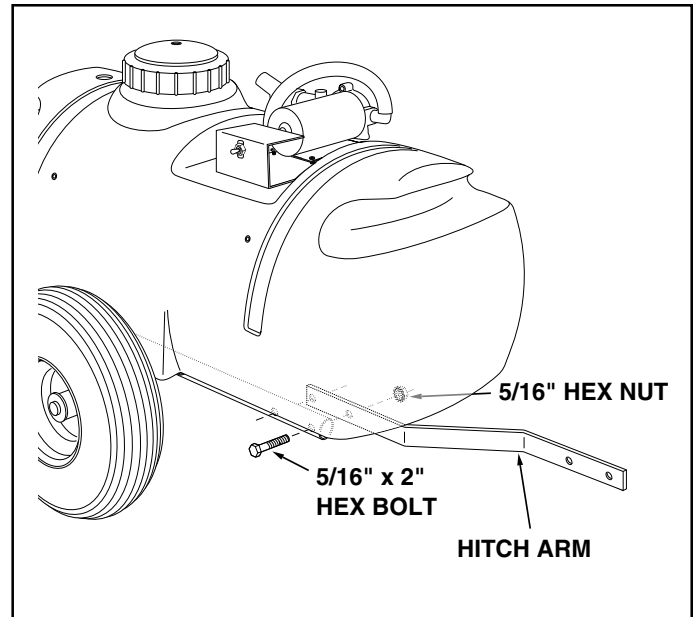
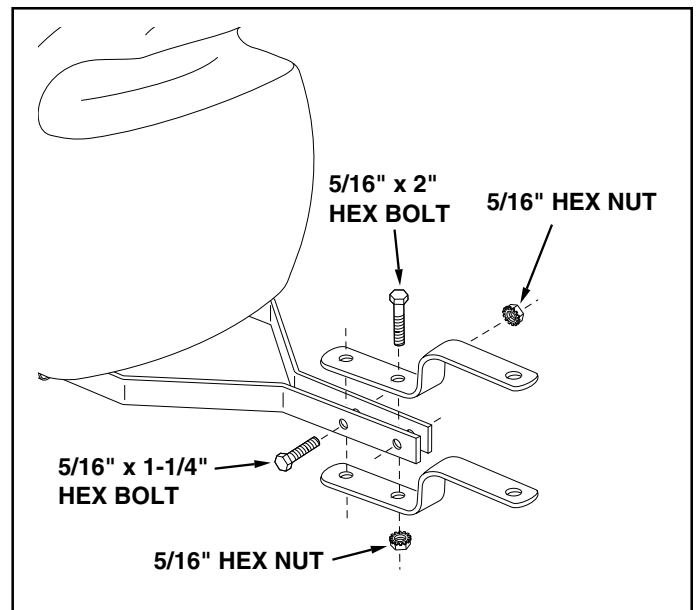

FIGURE 3
FIGURE 4
6. Assemble a hitch arm to the inside of a frame tube underneath the tank. Use two 5/16" x 2" hex bolts and 5/16" hex nuts as shown in figure 3. **Do not tighten yet.** Repeat for other side.
7. Fasten the ends of the hitch arms together using two 5/16" x 1-1/4" hex bolts and 5/16" hex nuts. **Do not tighten yet.** See figure 4.
8. Assemble the hitch brackets to the hitch arms using two 5/16" x 2" hex bolts and 5/16" hex nuts. Position each bolt behind a cross bolt in the hitch arms. **Do not tighten yet.** See figure 4.
9. At this time **tighten all bolts** starting with the bolts in figure 3, then the bolts in figure 4.